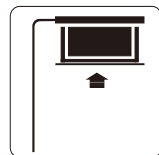

Figure 14
3. Turn the switch to position "-" to lower the screen; it will go up into the metal casing. When it is all the way up, it will stop automatically (Figure 14).